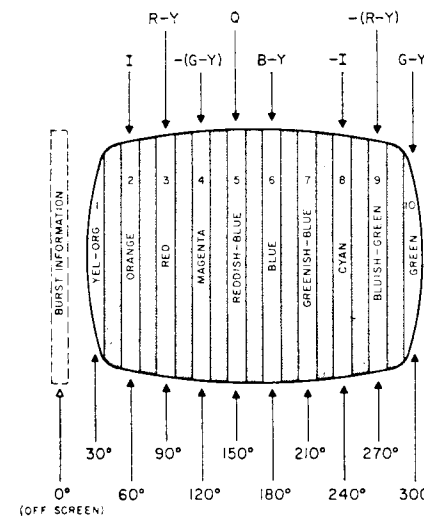

Fig. 2. Gated rainbow.
Step 2. Adjust the receiver's saturation, brightness and contrast controls to produce a pleasing color pattern. Ten individual color bars should be visible on the face of the screen (see Fig. 2 and 4).